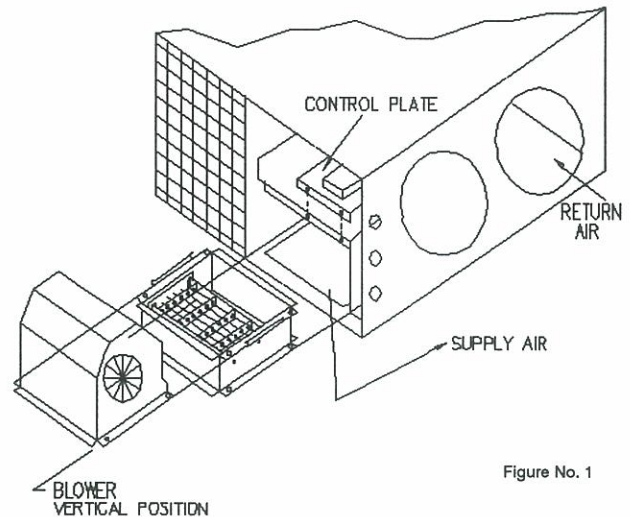

Figure No. 1
6. Using Figure No. 1 as a reference, slide heater/plenum assembly into place above vertical unit opening. Align mounting holes in flange on the plenum with those on the base unit and secure with screws provided.